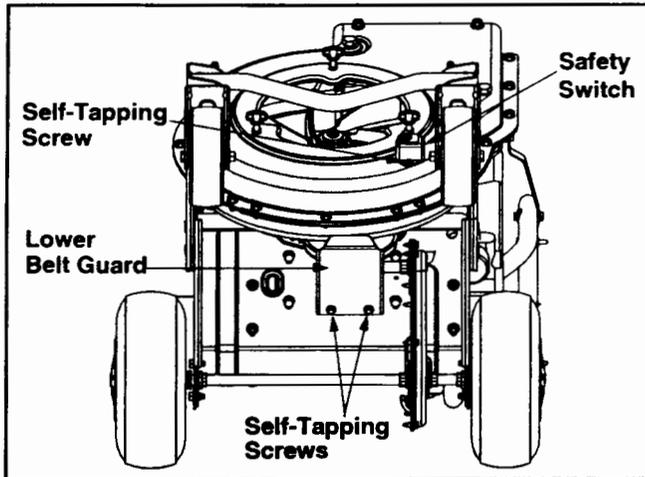

Figure 15
- Remove the lower belt guard by removing the two self-tapping screws. See Figure 15.
- Remove the safety switch from the front of the outer housing by removing the two self-tapping screws. See Figure 15.